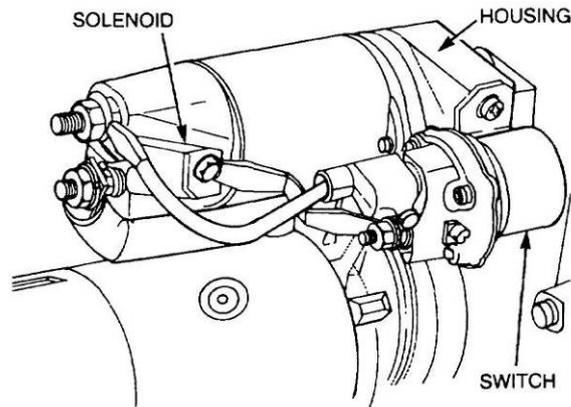

Figure 299 Removal of the Solenoid Switch
- b. Remove the two screws and washers securing the switch to the housing and remove the switch (Figure 299).
- m. Fit the solenoid switch to the housing and secure it with the two screws and washers. Connect the wire from the switch lower terminal to the solenoid side terminal and tighten the small hexagonal headed screw securely (Figure 299). Connect the wire from the switch upper terminal (with the protective boot), to the solenoid upper terminal and tighten the nut securely.